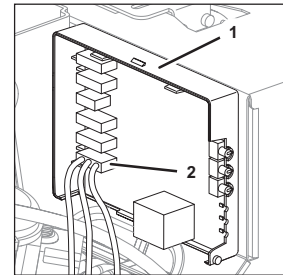

Fig. 49
1. Disconnect the plug (Fig. 49/2) of the carbonator pump motor from the control system (Fig. 49/1).
9. Connect the plug (Fig. 49/2) of the carbonator pump motor to the control system (Fig. 49/1).